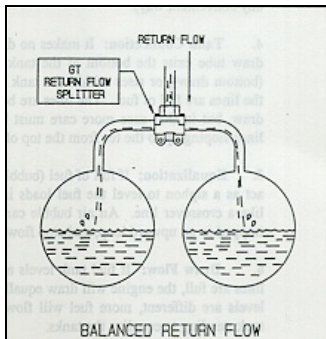

Figure 5: Balanced Return Flow
3. **Routing:** The GT Return Flow Splitter will compensate for moderate differences in routing from side to side, and moderate air-trapping loops. However, large differences and big loops in return lines should be avoided. (See Figure 5.)